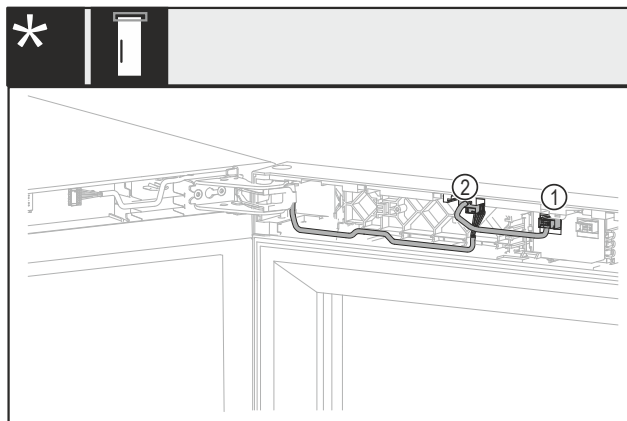

Fig. 8 Without lock or with mechanical lock
- Pull out the plug Fig. 8 (1).
- Pull out the plug Fig. 8 (2).